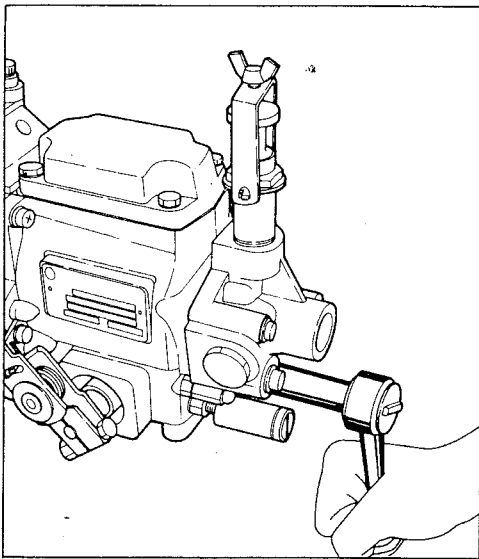

FIGURE 2-213
- (28) Apply a film of grease, to the supply pump “O” ring and to the end of the governor weight shaft.
- (29) Carefully assemble the supply pump to the rear of the governor housing.
- (30) Secure supply pump with screws and lockwashers. (See figure 2-213). The screw with seal hole should be installed in bottom hole of supply pump. Tighten screws to required torque value per Torque Chart, Section XI.